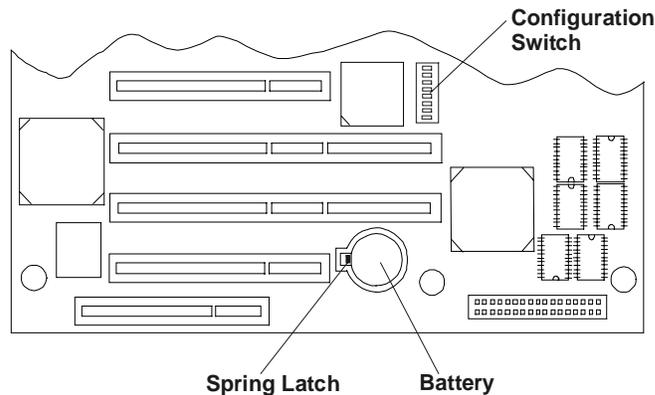

Figure 10-2. Battery on System Board
5. Insert a small flatblade screwdriver or similar tool between battery and spring latch. See Figure 10-2.